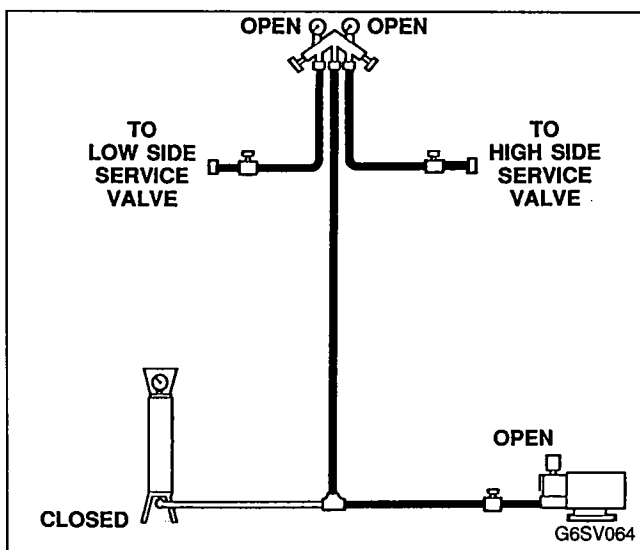

FIGURE 64. EVACUATION OF SELF-CONTAINED SYSTEMS
- b. Discharge service valve.Connect manifold gauges, dial-a-charge (or weigh-in method), and vacuum pump to ice machine, Figure 64.
2. Open (backseat) high and low side ice machine service valves. Open vacuum pump valve. Open high and low side on manifold gauges. Refer to Figure 64.